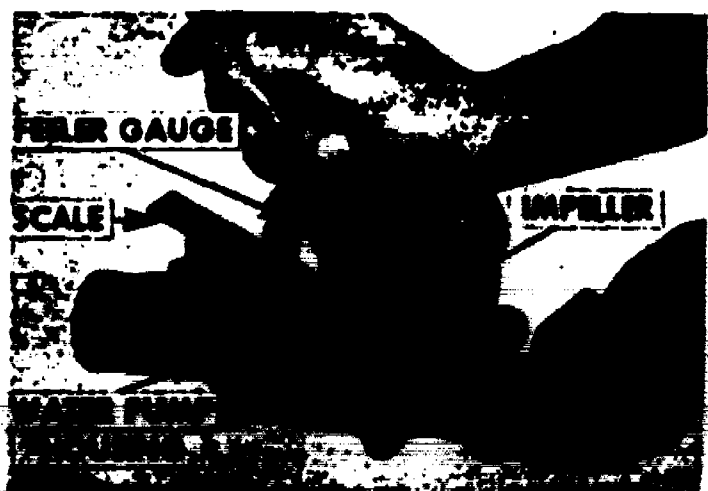

Fig. 95 - Measuring Water Pump Cover-To-Impeller Clearance
4. Mount assembly in press and install impeller on rear end of shaft. Place a straight-edge across the back of the water pump housing and check the clearance between straight-edge and impeller (Fig. 95).